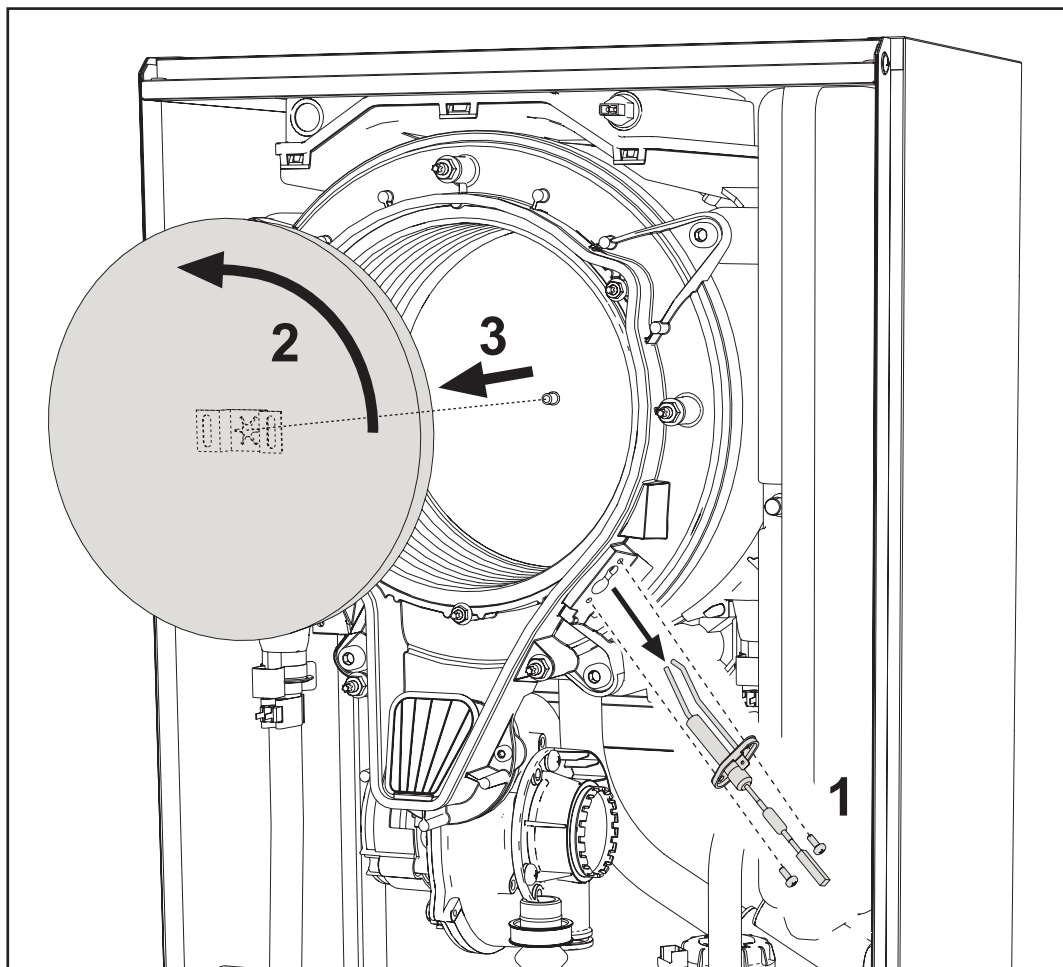

fig. 188 -
- Clean the inside of the exchanger with the accessories indicated in fig. 188.
- Remove the cover of the heat exchanger and the burner (see fig. 188).
- Remove the exchanger cover and remove the burner (see fig. 188).
- Clean the electrode (see fig. 188).
- After fastening, carefully check the distance between the electrodes (see fig. 188).
- Refit and secure the burner (see fig. 188)
- Refit and secure the burner cover (see fig. 188)